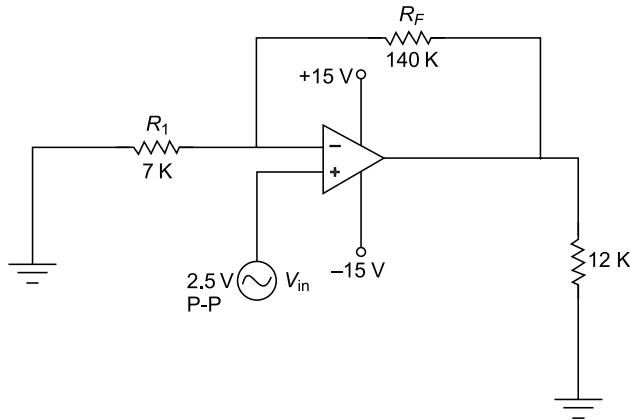

Fig. 3
6. (a) An N -channel JFET amplifier with a voltage divider biasing circuit as shown in Fig. 3 has the following parameters: $V_P = -4$ V, $I_{DSS} = 4$ mA. Calculate the value of drain current at the operating point. Verify whether the FET will operate in the pinch-off region. 7
7. (a) Obtain the closed loop gain, CMRR in dB and maximum operating frequency for the non-inverting amplifier shown in Fig. 3 whose common-mode gain is 0.003 and slew rate is 0.2 V/ μ s. 5